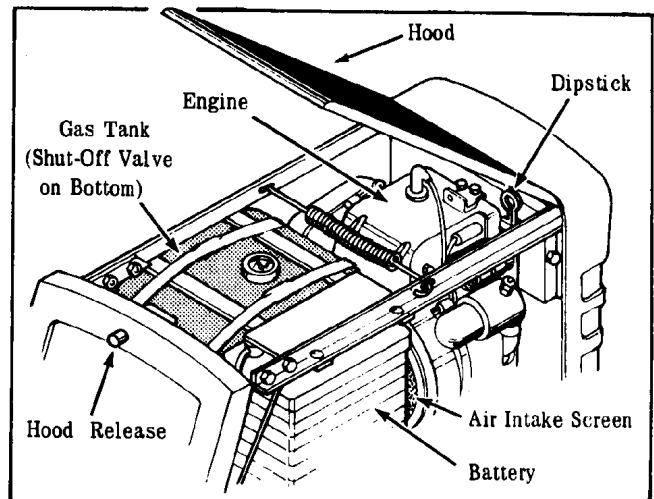

Figure 15
1. Check the oil level in the engine crankcase by means of the dipstick (See Fig. 15). The tractor must be level and the engine must be stopped or the reading will be inaccurate.
3. Check to be certain that the air intake screen on the engine flywheel is clean and properly fitted (See Fig. 15). If the screen becomes bent, cracked, broken, or otherwise damaged, it must be replaced.